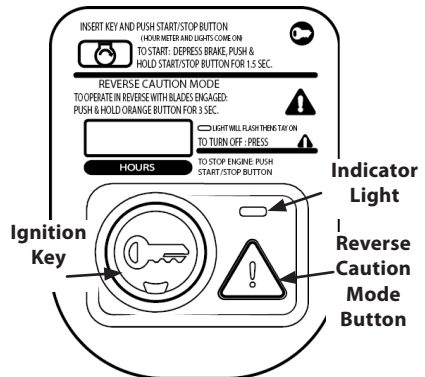

Figure 27
2. Press the REVERSE CAUTION MODE button and hold for 3 seconds. The indicator light will flash for 3 seconds and will stay on when the REVERSE CAUTION MODE is activated. See Figure 27.
3. The indicator light above the REVERSE CAUTION MODE button will be ON while activated. See Figure 27.